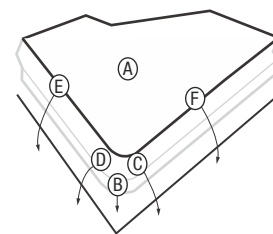

Figure 14. Apply the Product on the corner
3. Apply the Product to the flat surface before conforming the corners and then along the straight edges in this sequence: A, then B, C and D, then E and F, etc. See Figure 14, “Apply the Product on the corner,” on page 12.